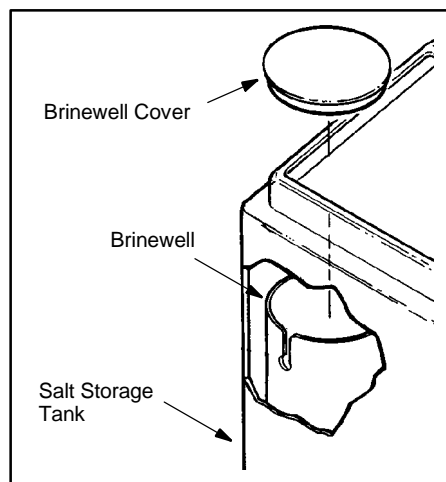

Figure 2
4. Remove brinewell cover from brinewell (**Figure 2**).
6. Remove float valve from brinewell and lower new float valve into brinewell. Secure brine line in slot on brinewell with the float assembly resting on the bottom of the salt storage tank (**Figures 2 and 3**).